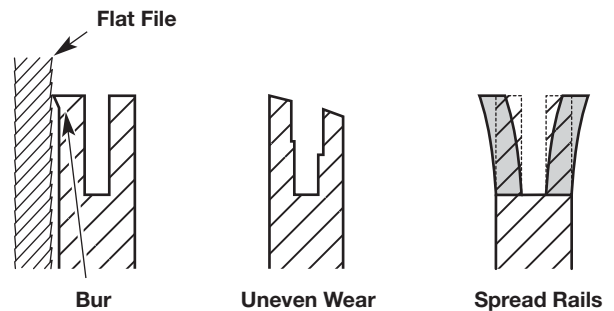

Fig. 38
- Frequently check the guide bar for damage (Fig. 38). Feathering and burring of the guide bar rails (the ridges on either side of the bar groove) is a normal process of guide bar wear. Such faults should be smoothed with a file as soon as they occur (Fig. 38). A guide bar with the following faults should be replaced: